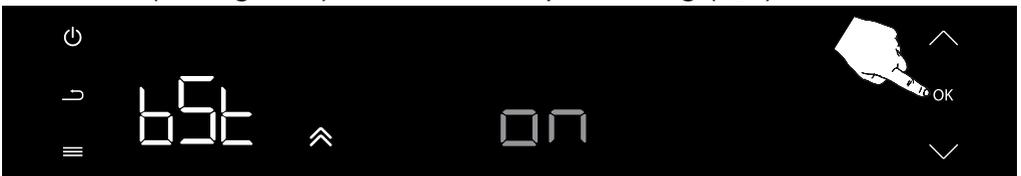

Figure 102
Press the confirm button (OK) once to confirm the **on** location selection. (see fig. 102) This activates preheating (⬆)